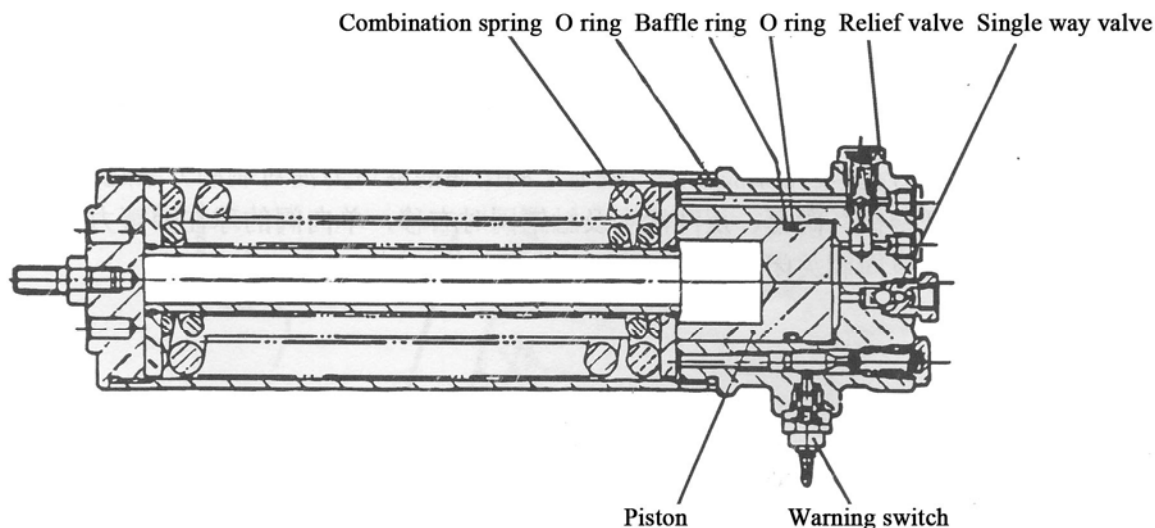

Fig 5.4 Energy Storer
5.2.3 Energy Storer(see Fig 5.4)